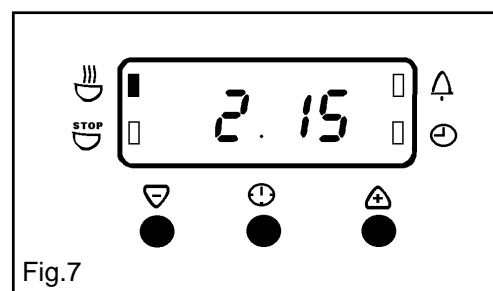

Fig.7
- To set the length of cooking time, press the Selector control button (⌚) until the 'Cook Time' indicator neon is illuminated (🔥). Press the increase control ( + ) until the required length of cooking time is displayed, e.g. 2 hrs 15 mins as Fig. 7. If necessary depress the decrease control ( - ) until the correct time interval is achieved.